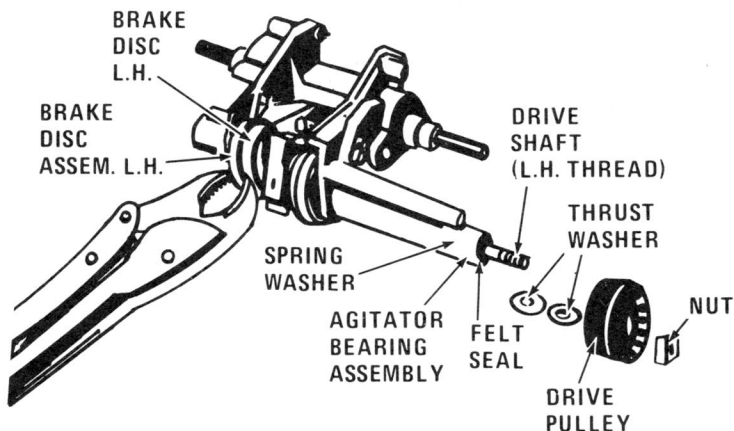

Fig. 9
- b. Remove Main Drive Pulley. Grasp "Reverse Side" Brake Disc plus Brake Disc Assembly with Vise-Grip pliers then turn Drive Pulley clockwise (LH Thread) until nut is free. Pulley may be tight on shaft due to presence of Loctite sealant. (Fig. 9) Apply Loctite to drive shaft when re-installing pulley, taking care not to get any down in area of the Agitator Bearing.